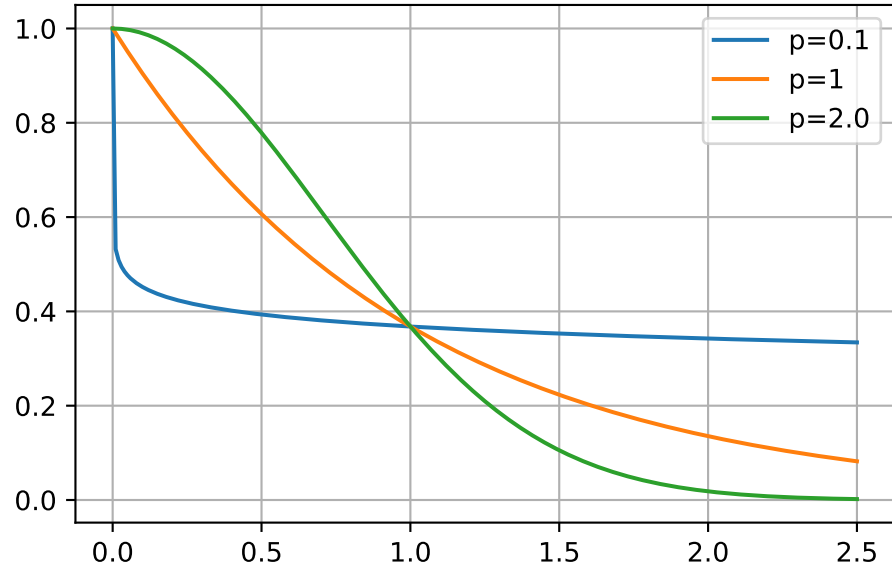

Figure 8.1.: Correlations with varying  $p$ .  $\theta$  set to 1.
**Example 8.1** (Correlations for different  $p_j$ ). Three different correlations are shown in Figure 8.1:  $p_j = 0.1, 1, 2$ . The smoothness parameter  $p_j$  affects the correlation:
Reducing  $p_j$  increases the rate at which the correlation initially drops with distance. This is shown in Figure 8.1.